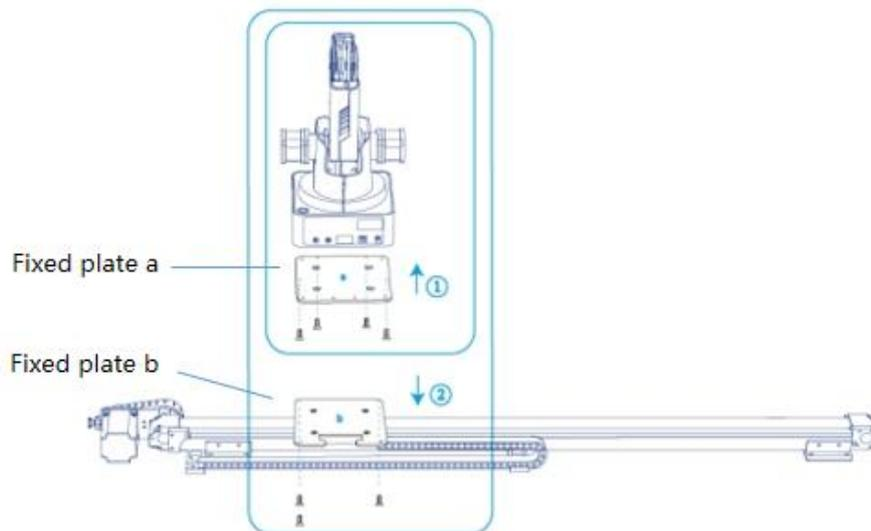

Figure 5.32 Fix Magician
- Step 2** Fix the plate a (with Dobot Magician) on the plate b with three M3*8 hexagon socket head cap screws. Please make the back of the base of Dobot Magician towards the rabbet on the plate b, as shown in Figure 5.32.